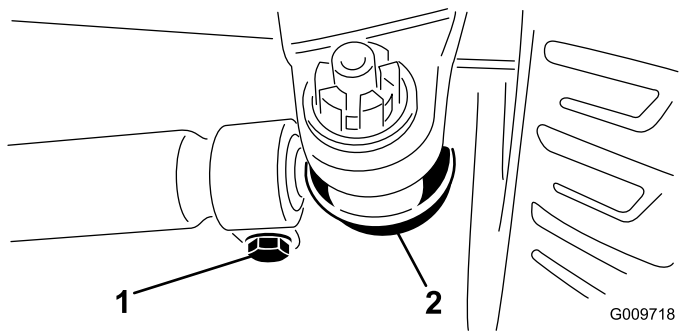

Figure 77
3. To adjust the toe-in, remove the cotter pin and the nut from either tie-rod ball joint (Figure 77).
5. Loosen the clamps at both ends of the tie rods (Figure 77).